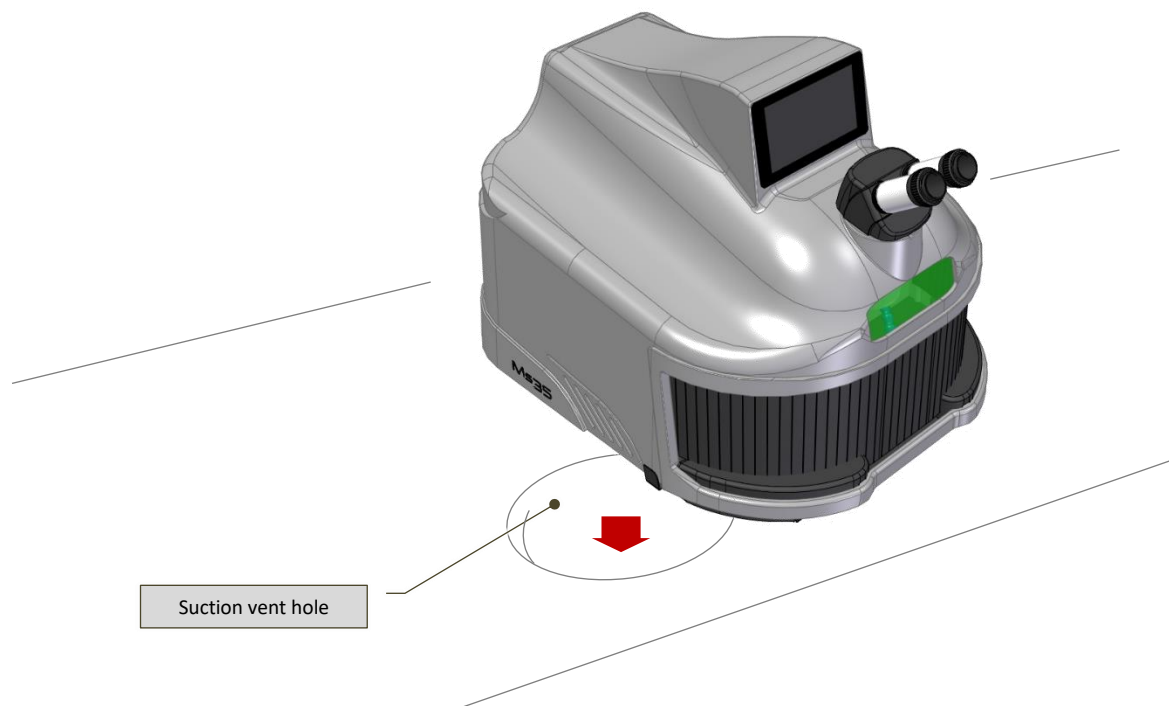
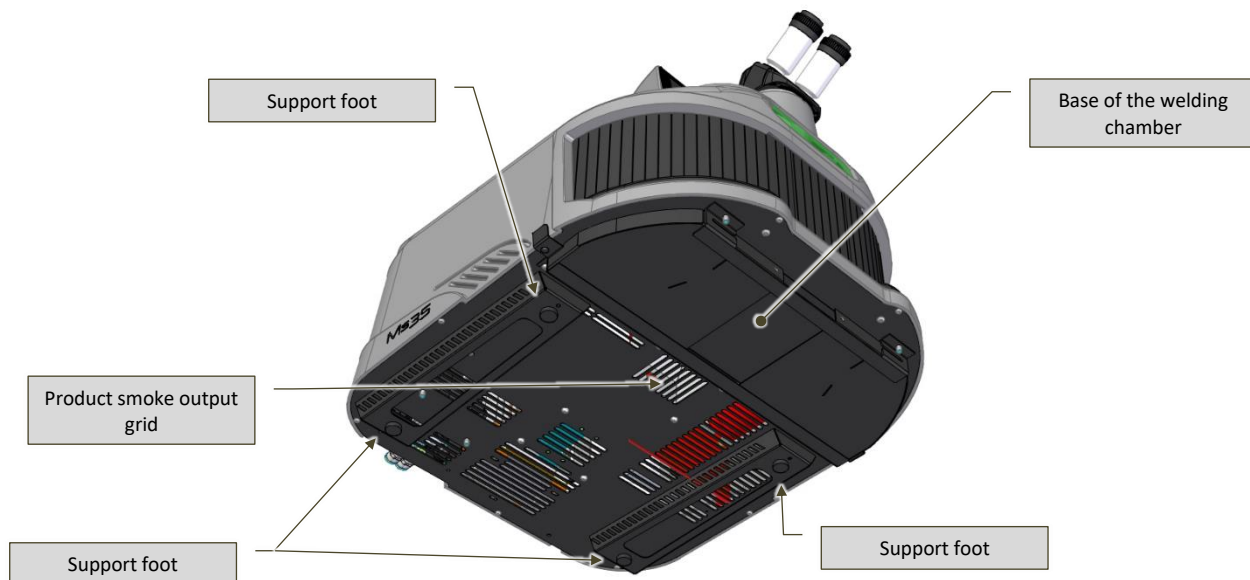

Fig. 6-5 – Ideal installation on worktable
Fig. 6-6 – View of machine support base
machine) located directly on the worktable, under the machine (as schematically illustrated in Fig. 6-5), and corresponding with the product smoke output grid (Fig. 6-6).
- It is leaning all four feet (Fig. 6-6);